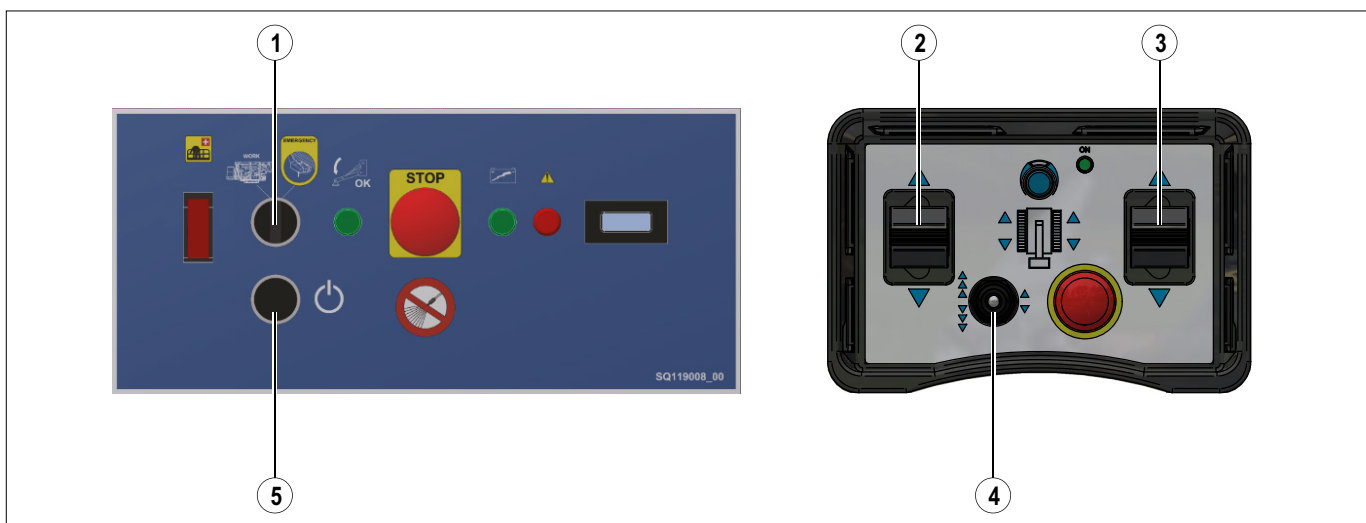

FIG. 28 (Moving the machine from the mobile control console)
2) Turn the selector switch on the ground control panel (**FIG. 28 - Ref. 1**) anticlockwise to enable "Platform controls".
3) Press and hold the button (**FIG. 28 - Ref. 5**) until it switches on.
5) Use the levers (**FIG. 28 - Ref. 2 and 3**) on the traction control panel to move the platform, ensuring you maintain a minimum distance of 3 metres and check for obstacles along the route.
6) Adjust the travel speed using the selector (**FIG. 28 - Ref. 4**).